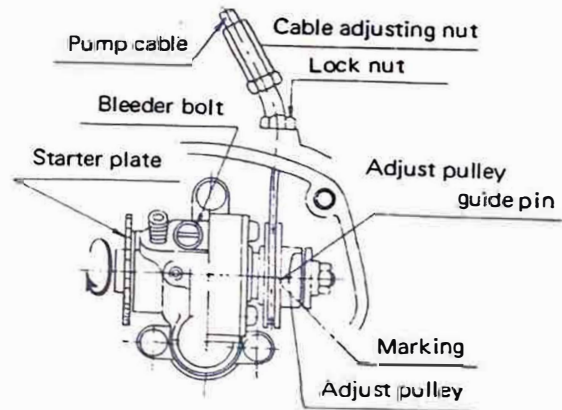
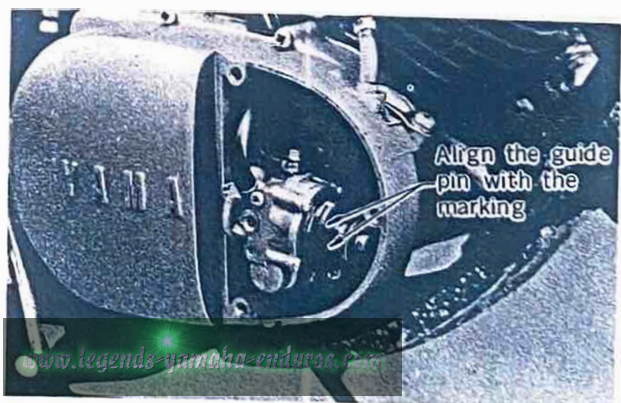

Fig. 2-3-7
Fig. 2-3-8
- Check the play of the throttle cable (A) by pulling the outer part of the throttle grip. If the play is excessive or insufficient, adjust the play with the adjustment screw.
- a. Adjust the pump cable so that the marking (arrow) on the Autolube pump adjustment pulley is aligned with the guide pin (see Fig. 2-3-8). Begin by fully closing the accelerator grip, then slowly turning it back again so that the slack in the throttle cable is completely taken up. Next, adjust the pump cable so that the marking on the pump adjustment pulley will be aligned with the guide pin, as shown in Fig. 2-3-7. The point of adjustment is at the end of the cable, just before it enters the case. Loosen the lock nut and screw the adjustor in or out, whichever direction is necessary to obtain the correct adjustment.